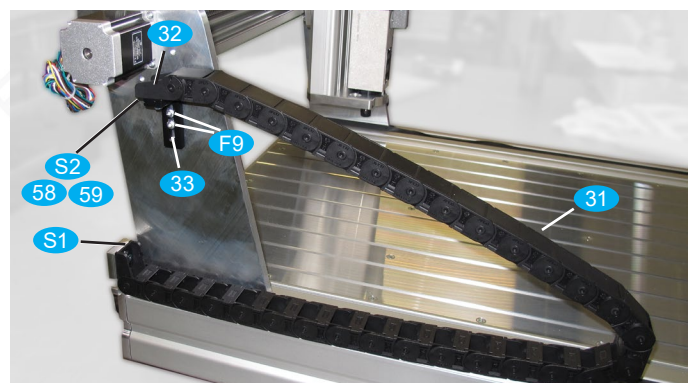

Fig. 37: Assembly of the drag chain for the Y axis
- Mount the mounting bracket **33** with flat-head screws **F9** on the right portal plate, as shown in Fig. 37.
- Hang the Y-drag chain in the connection kit and fasten the free end to the rear face plate using the connection kit and countersunk screws **S1**, as shown in Fig. 37.